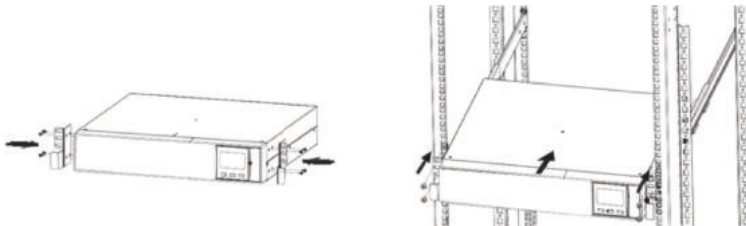

Fig.7: Mounting as a rack device in a 19" cabinet
- Proceed as in fig. 7 to install the device in a 19" cabinet.